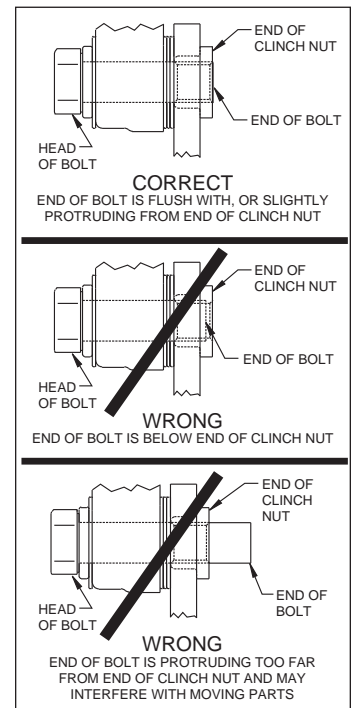

Figure 4. Clinch Nut Engagement Diagram
**Assembly Instructions** (numbers in parenthesis refer to the parts list and Figure 1 on the preceding page): **CAUTION:** All mounting bolts must fully engage clinch nuts. Be sure to check that all bolts are either flush or protruding through flanged side of clinch nut after shimming, Figure 4.
- Press the dust cap (14) into hub (9).
- NOTE:** Please reference the caution statement at the beginning of the assembly instructions. Mount the caliper (15) onto the caliper bracket (1) using bolts (17) and washers (16), as shown in Figure 1. Initially place two .035" thick shims (18) on each bolt between the caliper and the bracket, Photo 6. Temporarily tighten the mounting bolts and view the rotor (9) through the top opening of the caliper. The rotor should be centered in the caliper, Photo 7. If not, adjust by adding or subtracting shims (18) between the bracket and the caliper. Always use the same amount of shims on each of the two mounting bolts. **NOTE:** The end of the bolt must be flush with or slightly protruding from the head of the clinch nut in the bracket. If necessary, place spare shims between the washer and the caliper mounting ear to achieve the proper clinch nut engagement, as shown in Figure 4. Once the caliper alignment is correct, remove the bolts one at a time, apply red *Loctite*® 271 to bolt threads, and torque to 40 ft-lb.